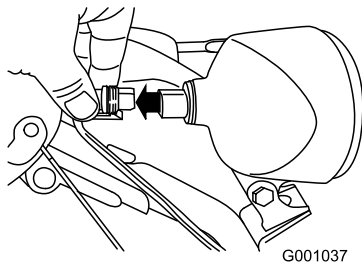

Figure 62
1. Remove the wire connector from the back of the headlight (Figure 62).